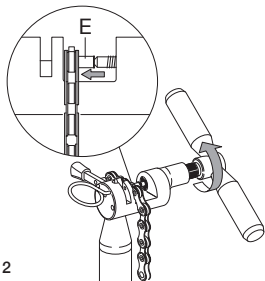

Fig.12
- While exerting a uniform force, screw in the tool (Fig. 12) so that the bushing **ULTRA-LINK 5-CN-SR700** (E) has completely entered the thickness of the chain.